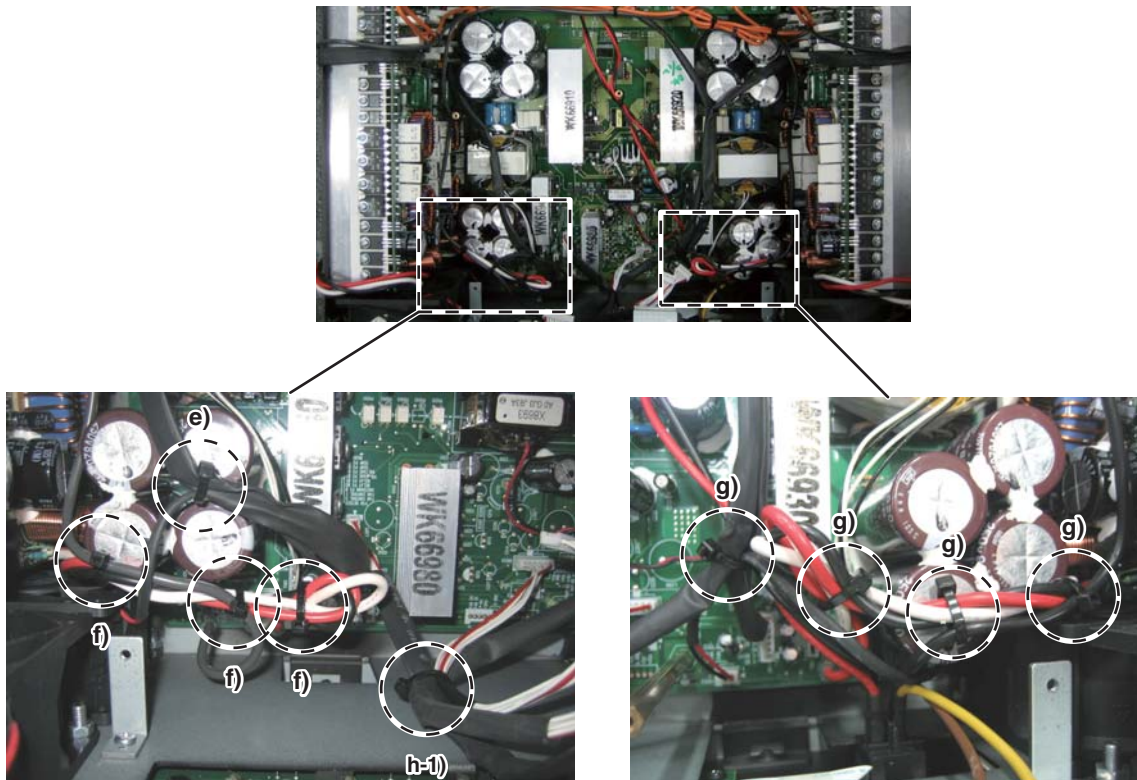

Fig. 25 (図 25)
- n) Fasten the wire (WN52520) with a cord holder. (Fig. 25, 26)